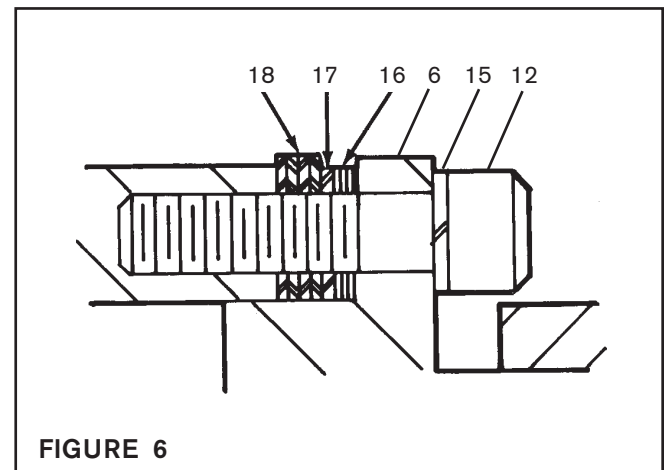

FIGURE 6
11. Apply a drop of Loctite® 242 to the threads of the Socket Head Cap Screws (Item 12) (See Figure 6).